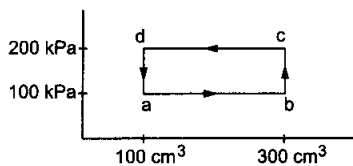

Figure 26-W2
2. A thermodynamic system is taken through the cycle *abcd* (figure 26-W2). (a) Calculate the work done by the gas during the parts *ab*, *bc*, *cd* and *da*. (b) Find the total heat rejected by the gas during the process.